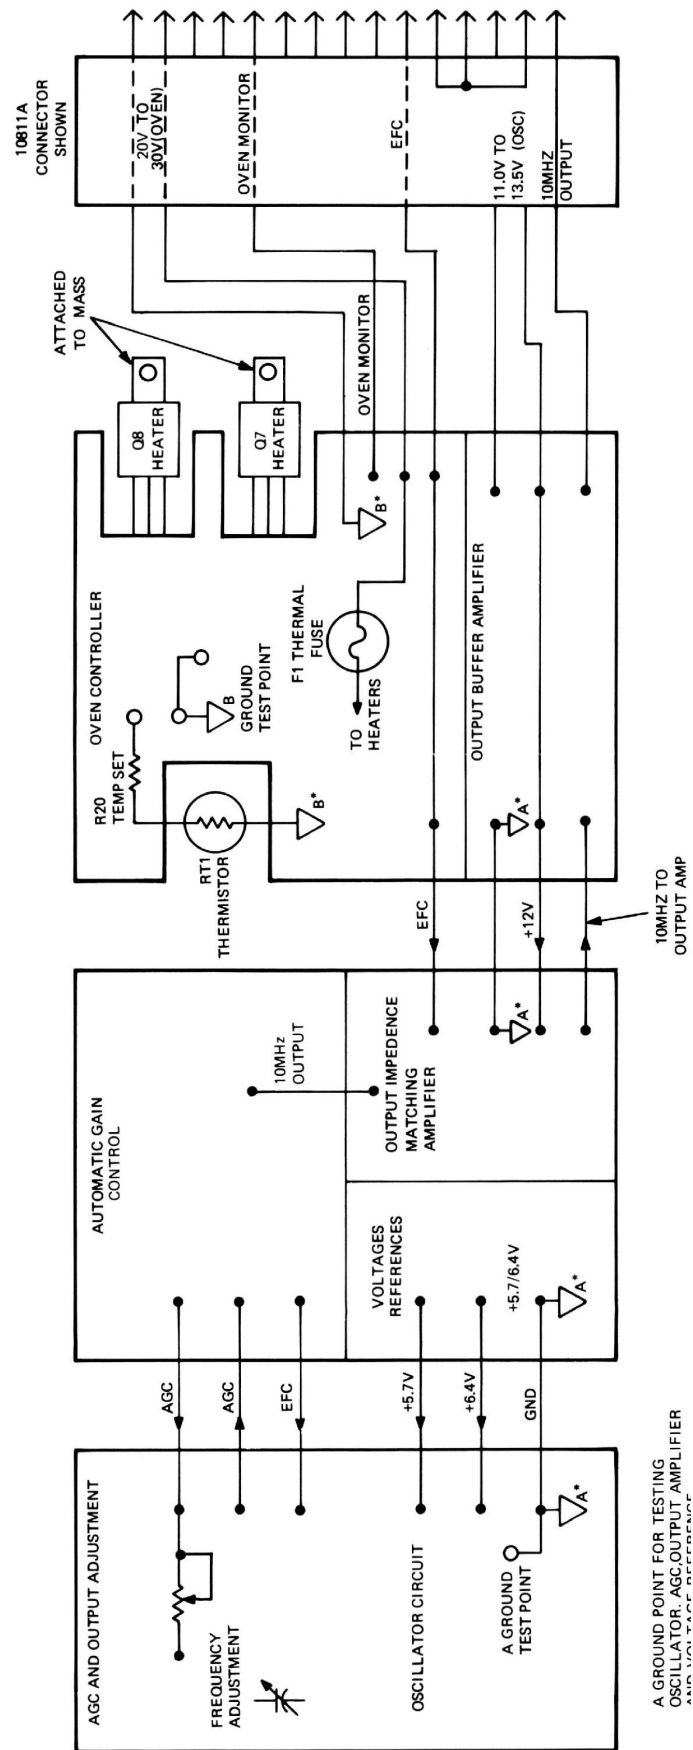

Figure 8-2. 10811A/B Overall Block Diagram
- 8-10. A detailed block diagram of the 10811A/B oscillator is shown in Figure 8-2.
- 8-12. The three sections can be divided into the following subsections (Figure 8-2):